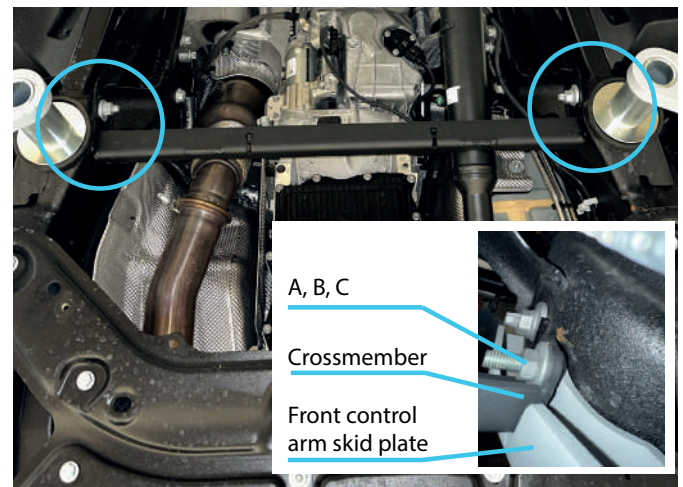

Fig. 4
\*If you are installing with the RIVAL engine skid plate, unbolt the crossmember and remove the spacer from step 3 of the RIVAL engine skid plate installation manual. Install the front control arm skid plates (items 3&4) between the skid plate crossmember and frame using M10x140 bolts, M10 washers, and M10 nuts (items A,B,C) (Fig. 4).